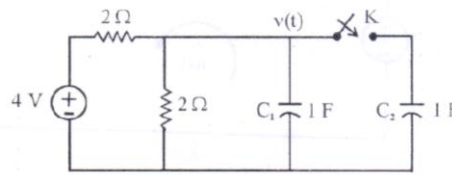

Fig.6.60
33. In the circuit shown in Fig.6.60, the switch K is closed at $t = 0$, after steady state is reached. Find $v(t)$, given $V_{C1}(0^-) = 2V$ and $v_{C2}(0^-) = 0 v$.